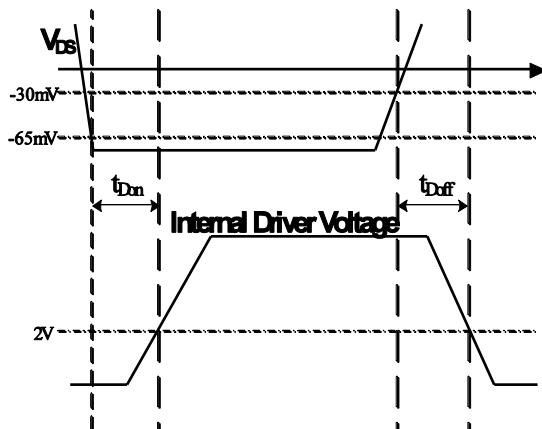

Figure 2: Turn-On and Turn-Off Delay
1. **Turn-On Phase:** The switch current first flows through the body diode of the integrate MOSFET, which generates a negative V_{DS} across it (less than -500mV). The voltage is much smaller than the turn-on threshold of the control circuitry (-65mV), which turns on the integrated MOSFET after a 200ns turn-on delay (see Figure 2).
3. **Turn-Off Phase:** When V_{DS} rises to trigger the turn-off threshold (-30mV), the driver voltage of the switch is pulled low after about 30ns of turn-off delay time by the control circuitry (see Figure 2). Similar with the turn-on phase, a 200ns blanking time is added after the switch is turned off to avoid an erroneous trigger.